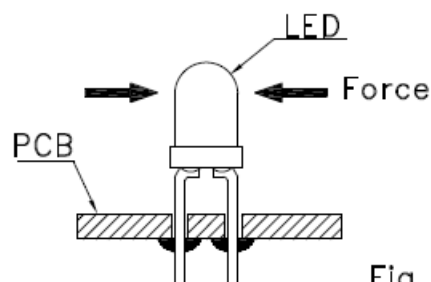

Fig. 9
6. After soldering or other high-temperature assembly, allow the LED to cool down to 50 °C before applying force (Fig.9). In general, avoid placing excess force on the LED to avoid damage. For any questions please consult with LIGHT representative for proper handling procedures.